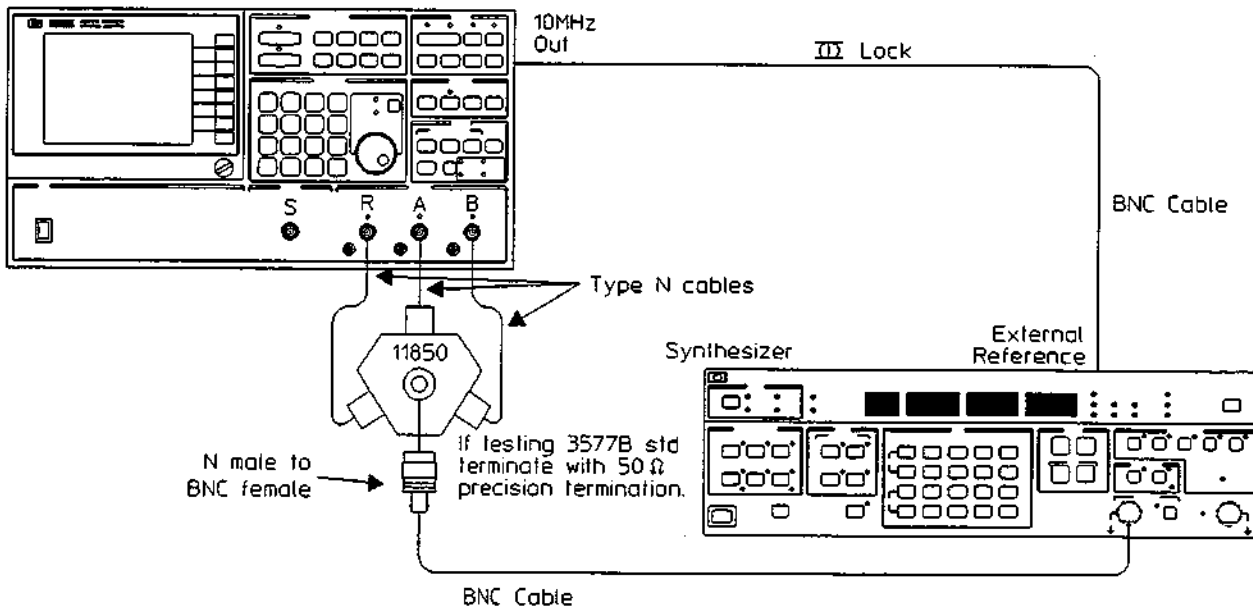

Figure 3-6. Dynamic Linearity (Magnitude vs. Phase) Test Set-Up
- a. Set up the equipment as shown in figure 3-6. Make sure the HP 3577B 10 MHz OUT is connected to the synthesizer external reference input. The EXT REF LED on the front panel of the synthesizer should be on.